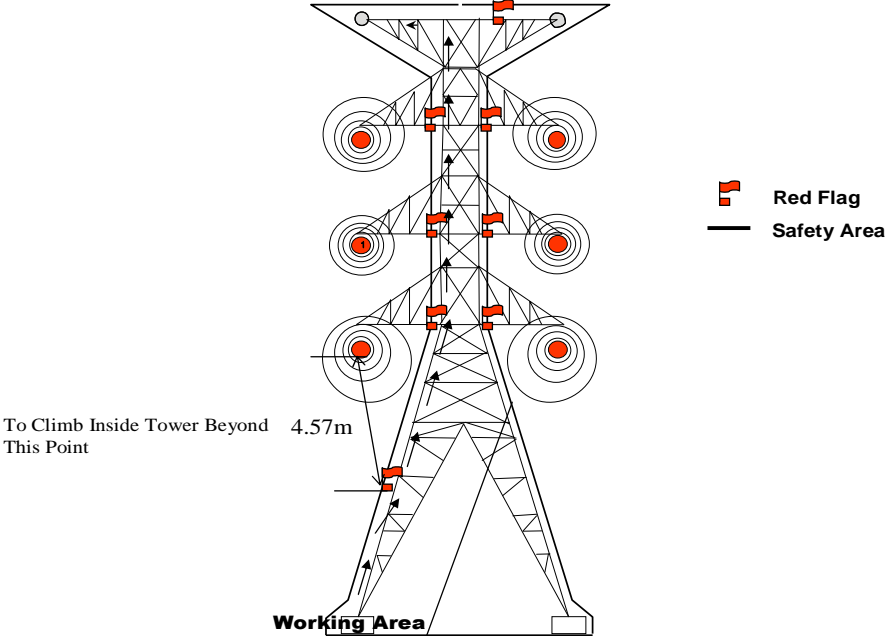

FIGURE 1 - Safe working area
- Red flags to indicate safe working route should be installed. Refer FIGURE 1 for details. Strict instructions should be given to the personnel to stay within the dedicated safe working route to reach the working area. The safe working route shall be established based on the 4.57m safety clearance to be maintained while climbing.